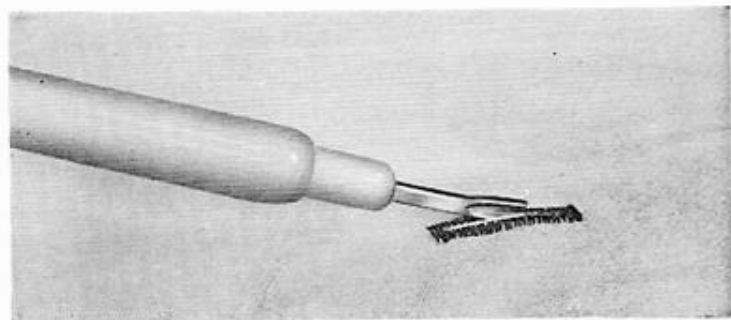

Fig. 26
- e. When the buttonhole has been sewn, the material in between is cut with the special seam ripper (Fig. 26).